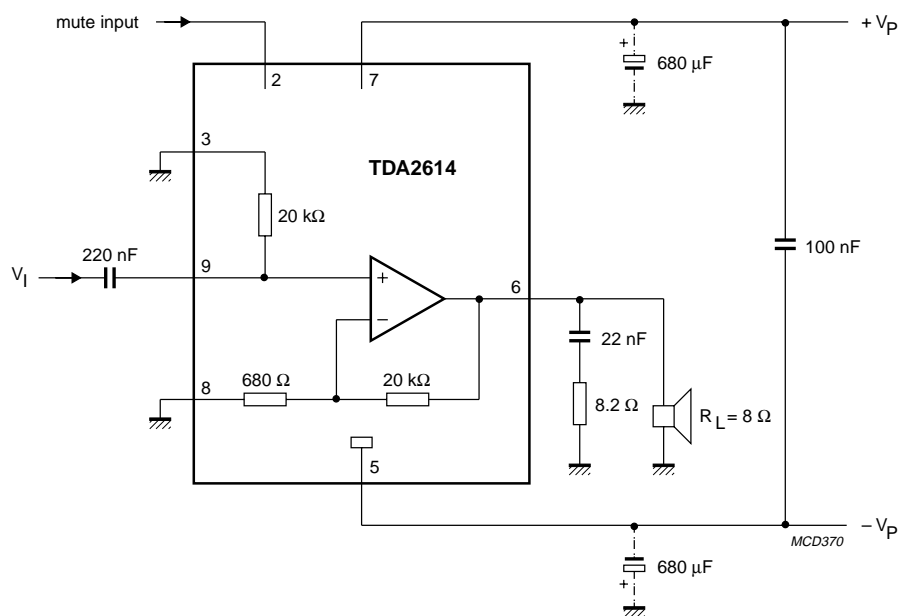

Fig.4 Test and application circuit with symmetrical power supply.
- $\pm V_P = 12$ V; $R_L = 8 \Omega$; $T_{amb} = 25$ °C; $f = 1$ kHz; symmetrical power supply $I_{MUTE} < 30 \mu A$. See Fig.4